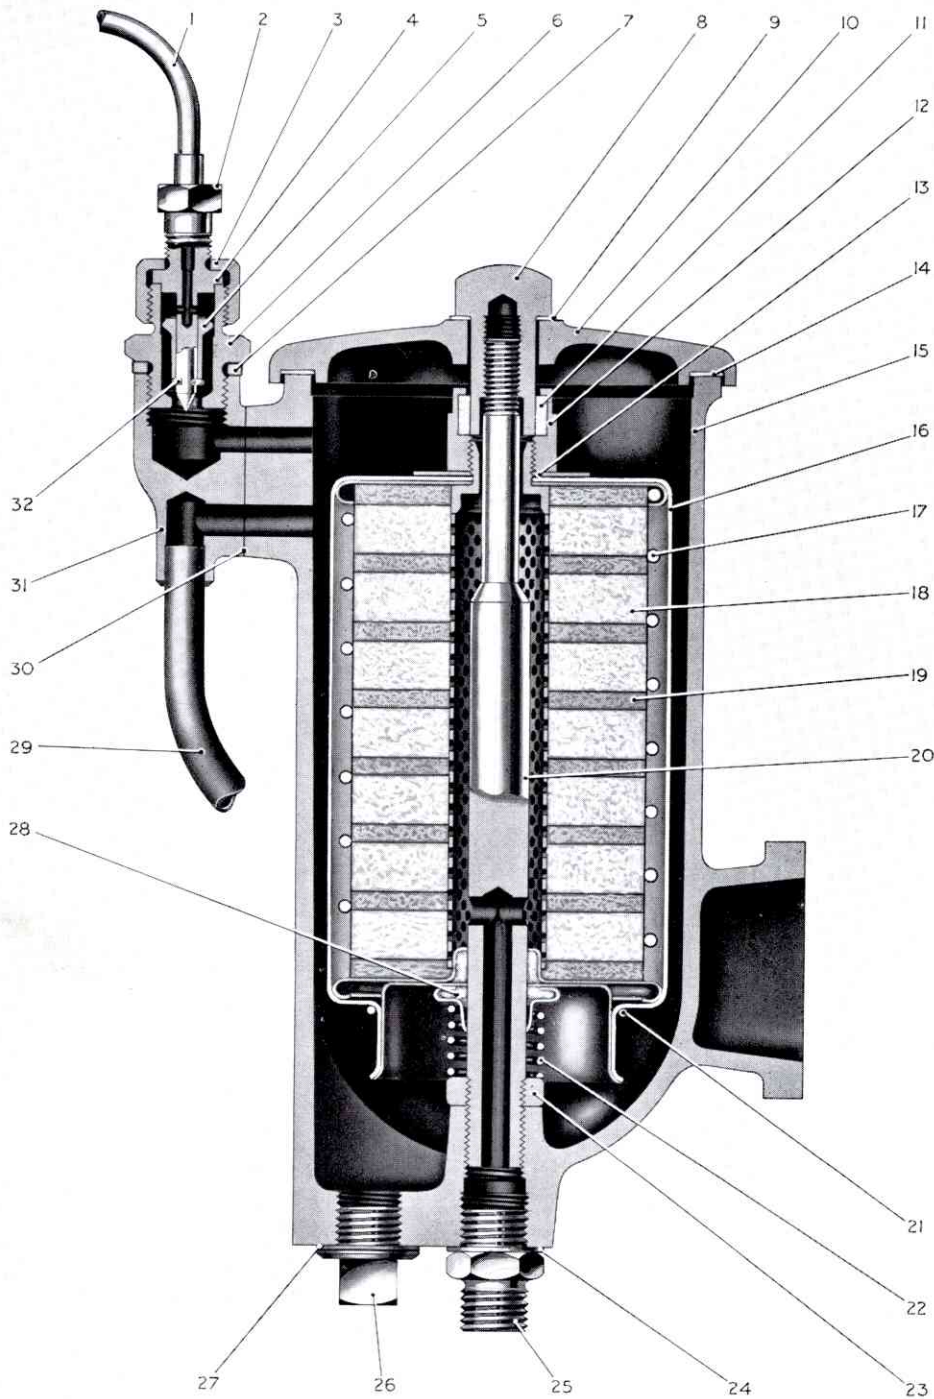

FIG. 90. SECTION THROUGH MAIN FUEL FILTER
The fuel is raised by a small diaphragm-type lift pump which is secured to the side of the injection pump and driven by an eccentric formed on the injection pump camshaft. Fuel is delivered to the injection pump through the main fuel filter (Fig. 90), and a leak-off pipe fitted to each injector is connected to a gallery pipe which discharges back into the filler neck of the main tank. Air-bleed points enable the system to be kept free from air locks.
The fuel filter unit consists of a die-cast body and cap housing a double filtering element and fitted with a gravity air-vent-valve, see Fig. 90. The filtering element, known as the "Pack-and-Sack" type, is made up of fifteen square felt pads, assembled thick and thin alternately (18) and (19), on a perforated support tube.